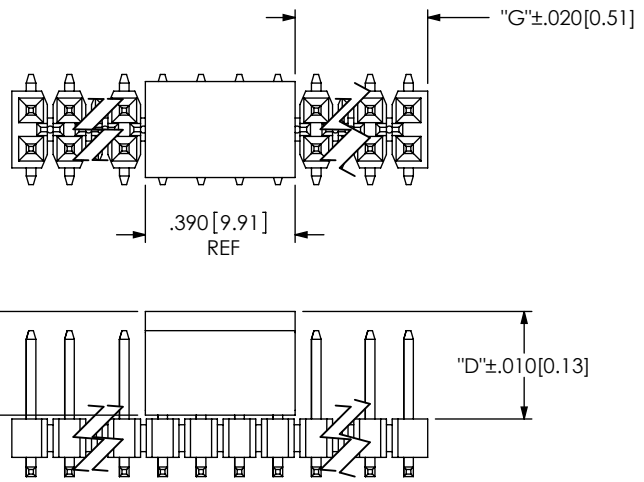

FIG 4
- P: PICK AND PLACE PAD (USE PPP-06, SEE FIG 4, SHT 2) (AVAILABLE ON POS -04 THRU -36, -50) (AVAILABLE ON POS -02 & -03 WITH -TR OPTION ONLY, SEE NOTE 5)